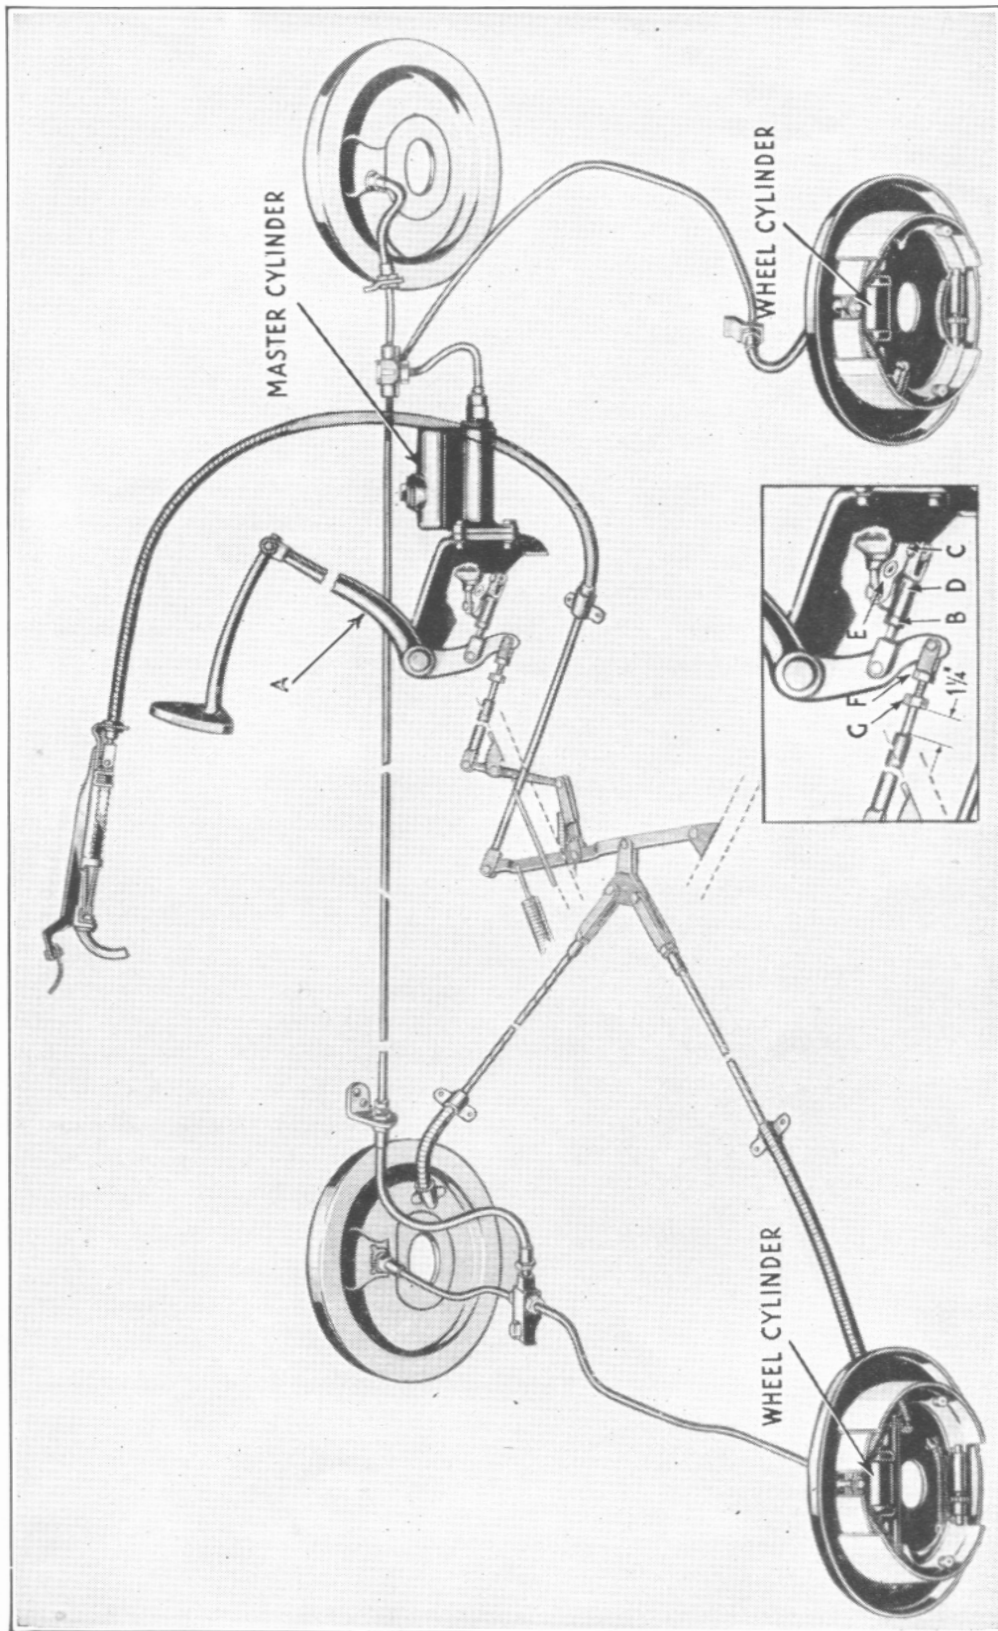

Figure 45
If at any time, the hydraulic system should fail due to an accident or some other cause, continued pressure on the foot pedal automatically applies the mechanical reserve system on the rear wheels. See Fig. 45.
ADJUSTMENTS—To insure proper operation of the mechanical reserve system it is important that $1\frac{1}{4}$ inches clearance be maintained between rear face of push rod (G), Fig. 45, and front face of the pedal push rod with the brakes released.